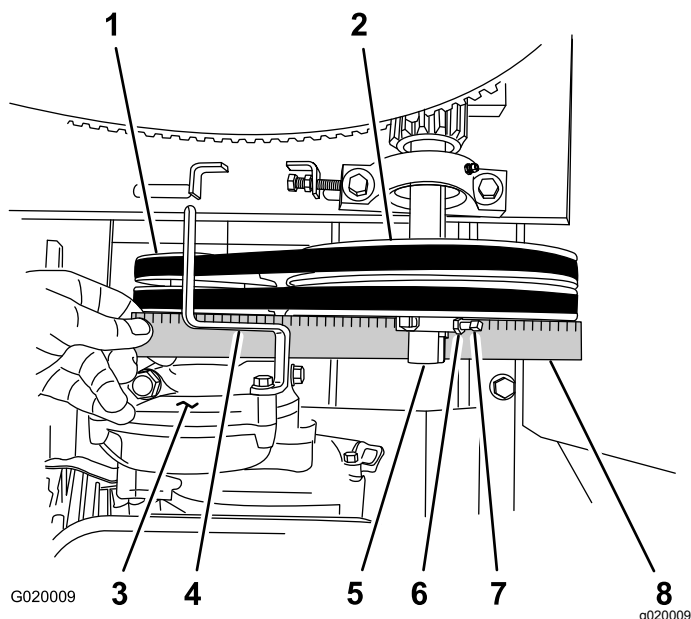

Figure 64
- D. Align a straightedge across the engine pulley and the idler pulley (Figure 64).
- E. If necessary, pivot the engine on the engine deck until the engine pulley and idler pulley are aligned to the straightedge (Figure 64).